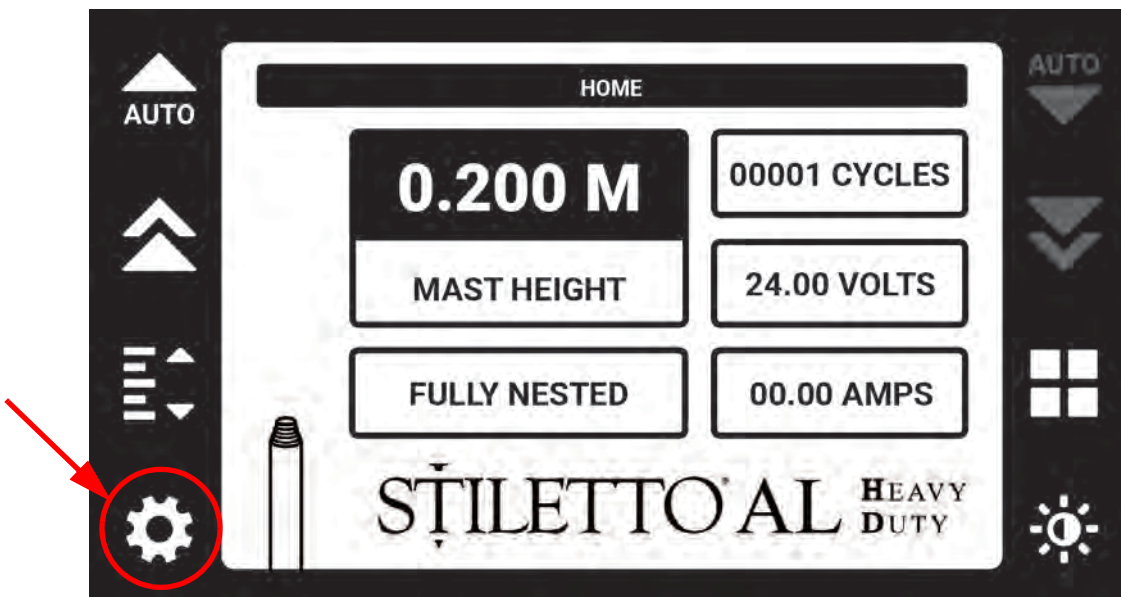
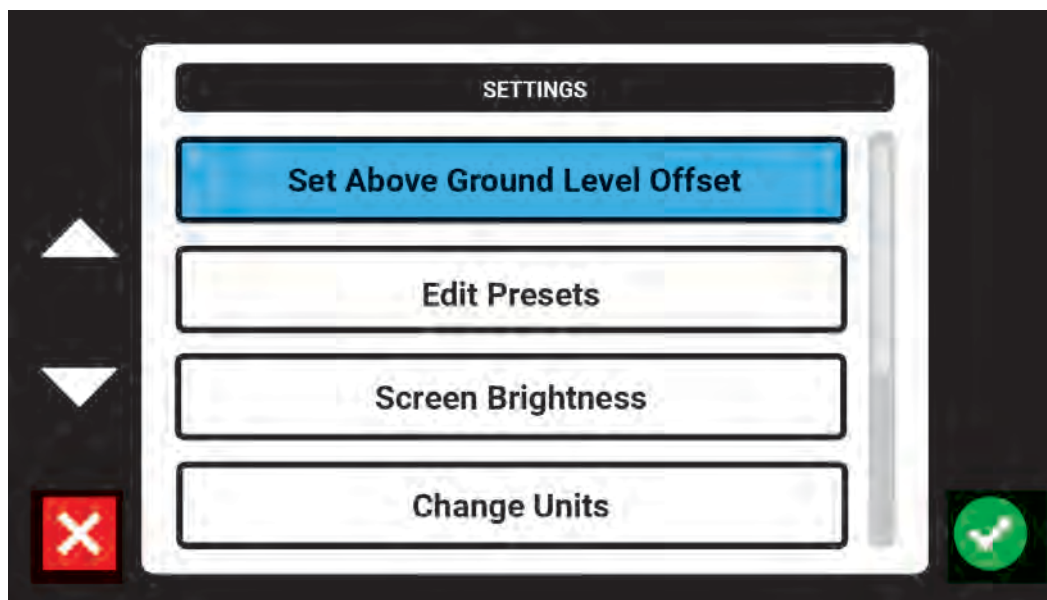

Figure 5-10 Select Settings Button
Figure 5-11 Settings Screen
1. To adjust the mast system, go to the Settings Screen (Figure 5-11). To go to the Settings Screen, select the gear icon on the bottom left of the screen (Figure 5-10).
Below is the Settings Screen (Figure 5-11). Use the arrows or the scroll wheel to scroll through the setting options. The selected setting option will be highlighted blue.